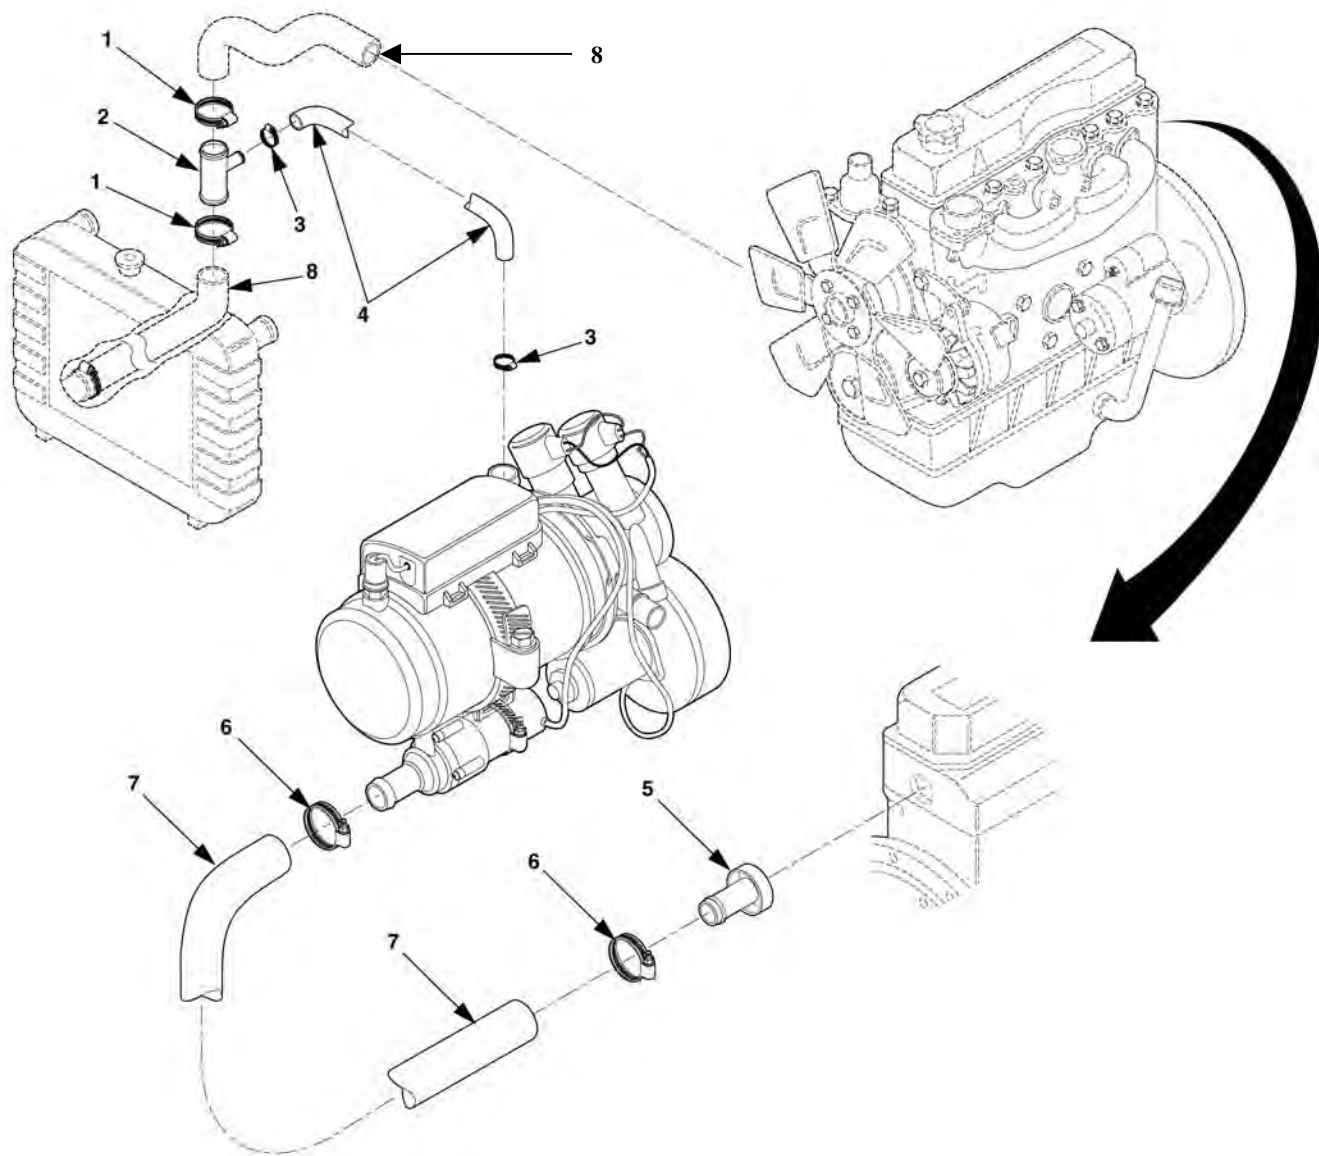

Figure 5-3. Coolant Hoses
9. Remove expansion plug from rear of engine head (refer to engine TM 9-6115-254-24). Apply retaining compound to the mating surface of new expansion plug (5), Figure 5-3. Install expansion plug, then flush with engine block using a brass drift on outer edge only.
10. Install coolant hose (7) from expansion plug (5) to heater coolant intake using clamps (6).
11. Cut lower coolant hose (8) and install tee (pointing towards back of generator set) (2). Secure with clamp (1).
12. Install coolant hose (4) from tee to heater coolant using clamp (3).